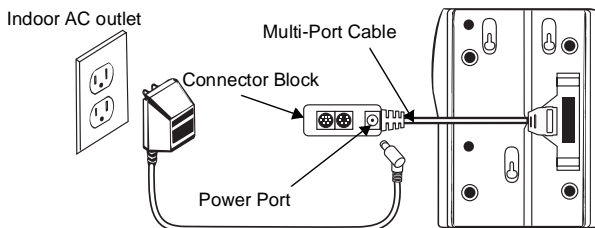

Figure 6 Power Pack Connection
1. Connect the end of the Multi-Port Cable with the 41-pin connector into the bottom of the terminal. See Figure 6.